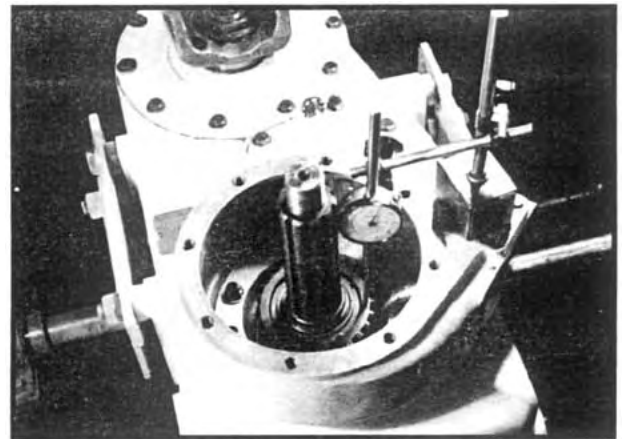

Fig 61
6. Lower the rear output shaft assembly into position with a new gasket. The work "TOP" on the rear carrier must be toward the top of the transfer case as installed in the vehicle. Torque the (10) 12-point cap screws to specification.
8. Install a dial indicator such that the indicator tip rests against the end of the clutch gear as shown in Figure 61. Pry the lower shaft assembly up and down several times to be sure that the front bearing cup is seated. The prying must be done on the clutch gear, not at the rear output shaft. Note the indicated shaft end float. If the end float is not within specification (.003 to .008 in.), the shim pack should be removed and replaced with a combination of shims which will provide the specified end float. See Item 16 on P.13 or 14 in the parts manual for a list of available shims. Be sure to recheck the end float afterwards.